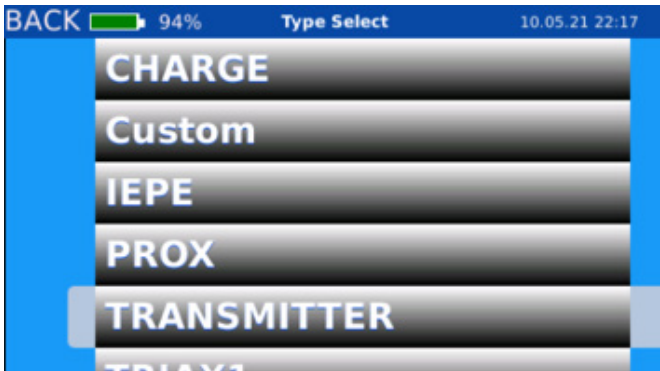
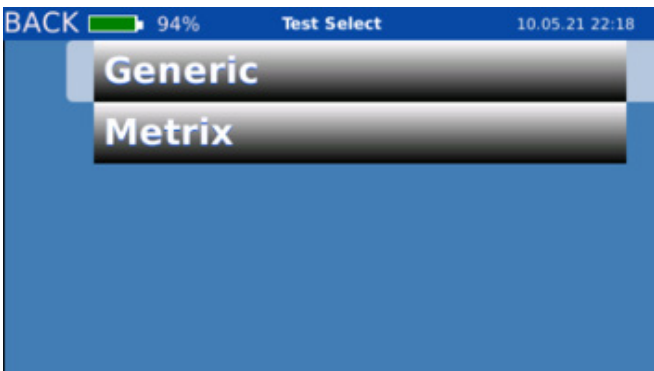

Figure 37. Select sensor type
Figure 38. Select manufacturer
- 4. Select **Transmitter** as the sensor type and select the manufacturer (Figure 37 and Figure 38).